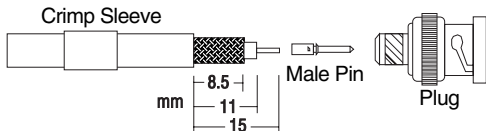

Figure 7: Antenna Connector Assembly
- 2 Terminate the free end of the cable with the BNC crimp plug supplied, as shown in Figure 7:
- Trim the outer sheath from the cable to 15mm (see Figure 7 below).